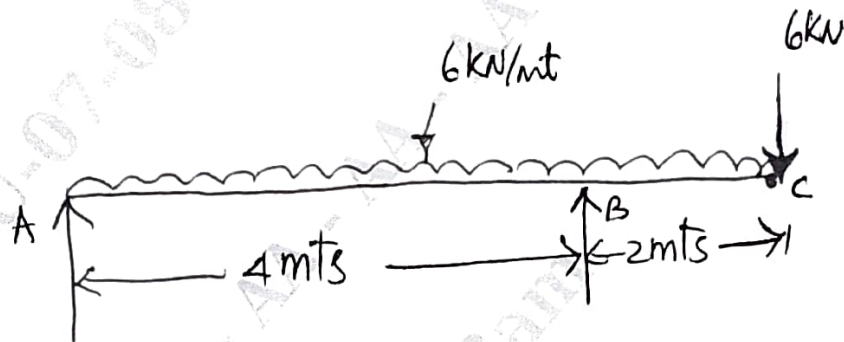

Fig. Q4 (b)
b. Draw BMD and SFD for the beam shown in the Fig. Q4 (b).